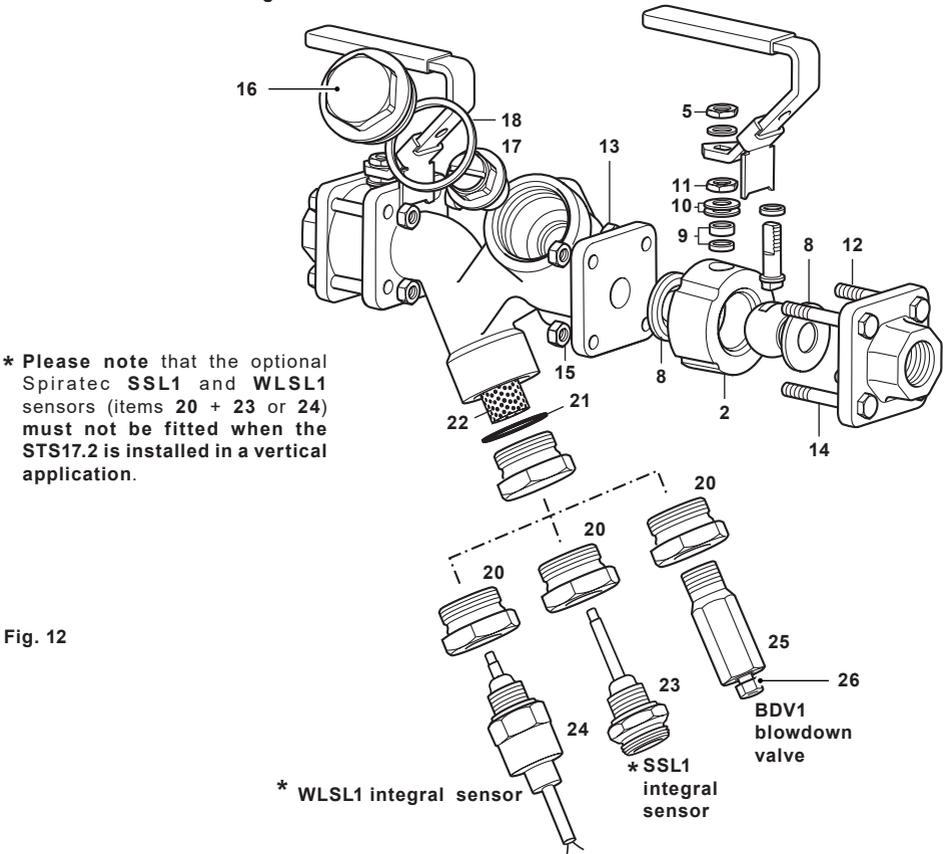

Fig. 12
5.7 How to replace the ball valve spares (reference Figure 12):